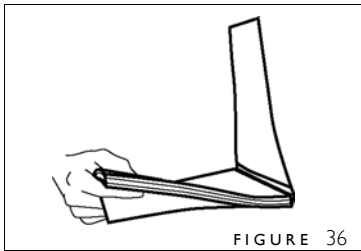

FIGURE 36
3. Place your pre-folded cover on a flat surface with the front of the cover bent up from the **rear spine edge**. Insert your book block inside the front of your cover (figure 36). Position it so full and even contact is made in the spine area.